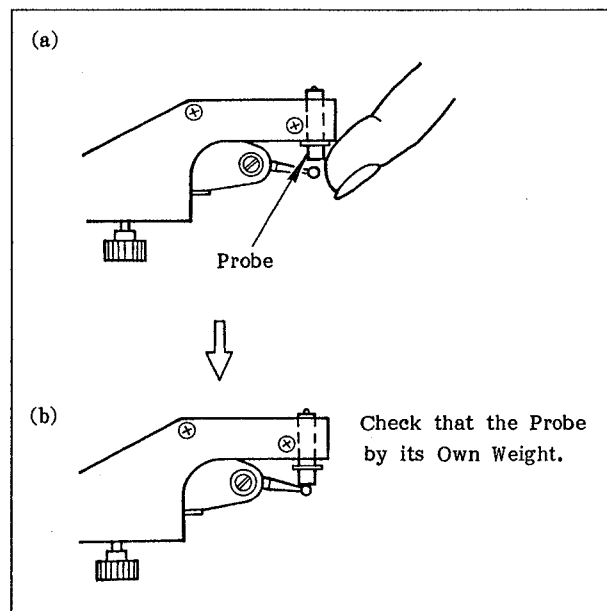

Fig. 5-19 Checking the Probe
1. Hold the probe of the head projection measurement gauge with your finger, as shown in Fig. 5-19 (a), and check that it drops by its own weight when you remove your finger, as shown in Fig. 5-19 (b).